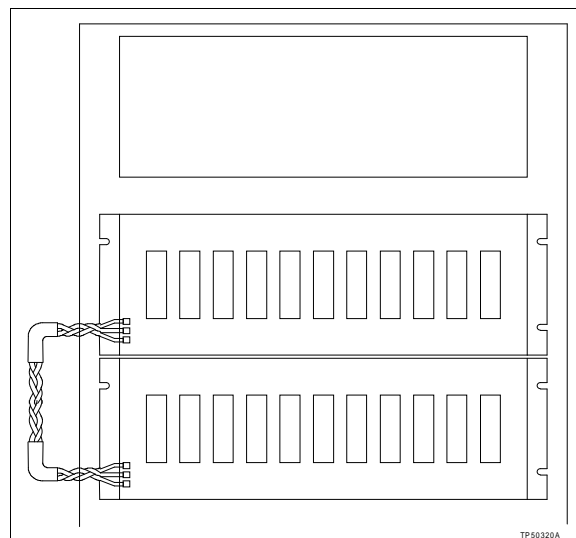

Figure 3-2. Controlway Cable Installation
1. Attach one end of the Controlway or module bus cable (twisted 3-wire) to the bottom 3 tabs on the lower left of the MMU backplane (facing from behind). See Figure 3-2.